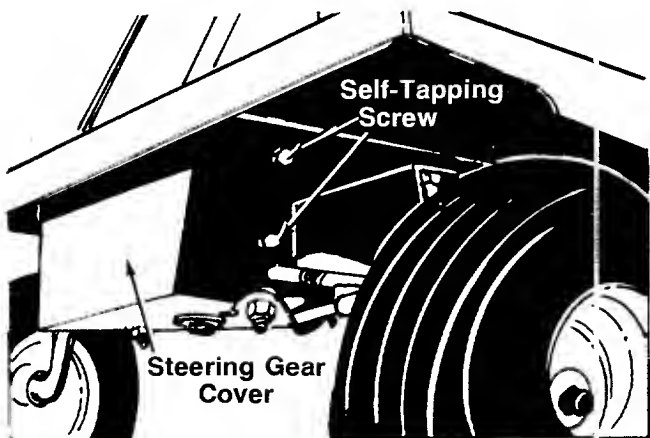

FIGURE 8.
13. Install the **steering gear cover** (D) as shown in figure 8, to cover the underside of the steering mechanism. Secure with two **self-tapping screws** on each side of the cover. Do not completely tighten any of these screws until all four of them are positioned correctly.